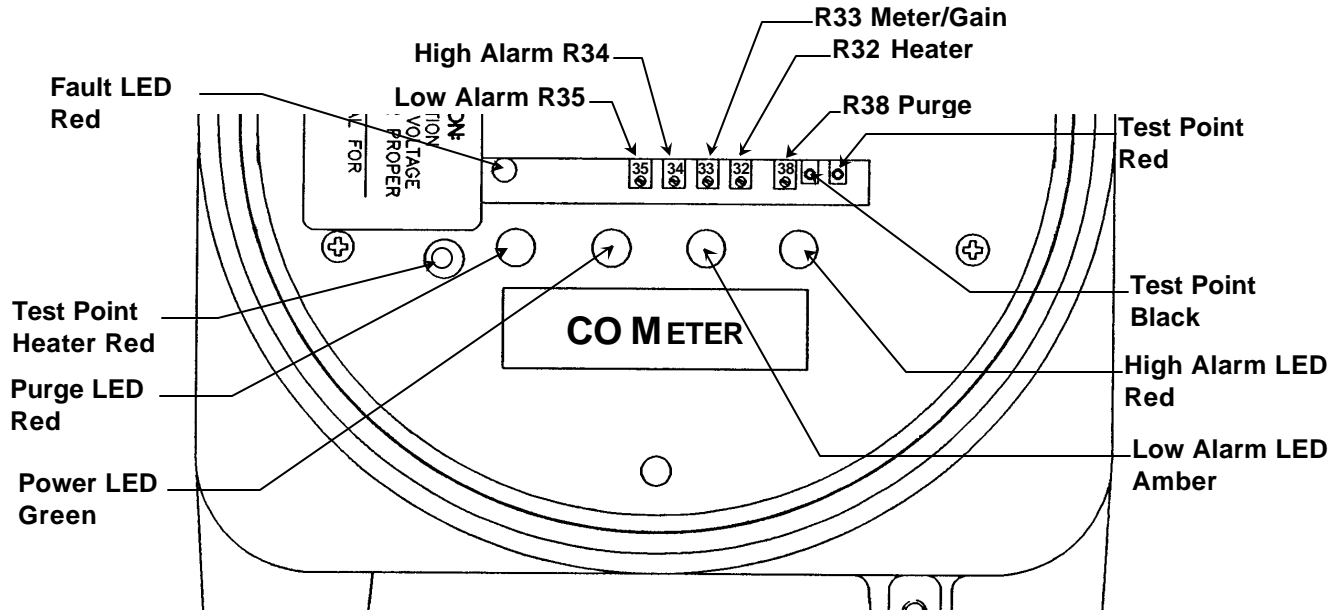

Figure 7: Control Unit CO Channel
4. After the proper time exposure to the calibration gas, adjust the meter/gain adjust pot. (R33..see Fig.7) until the meter reading corresponds to the low-level gas concentration. For example, 35 ppm CO calibration gas requires a meter reading of 35 ppm CO.